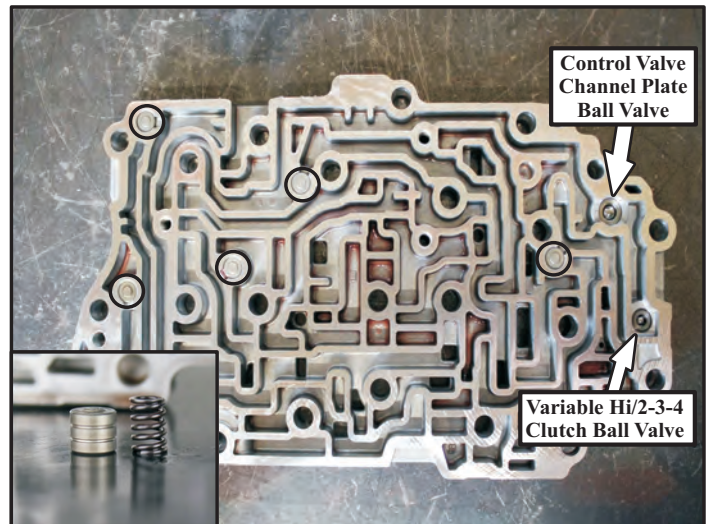

Figure 18
- (12) The valve body transfer plate is shown in figure 18. Small parts are identified and have not changed from the Generation II design level.